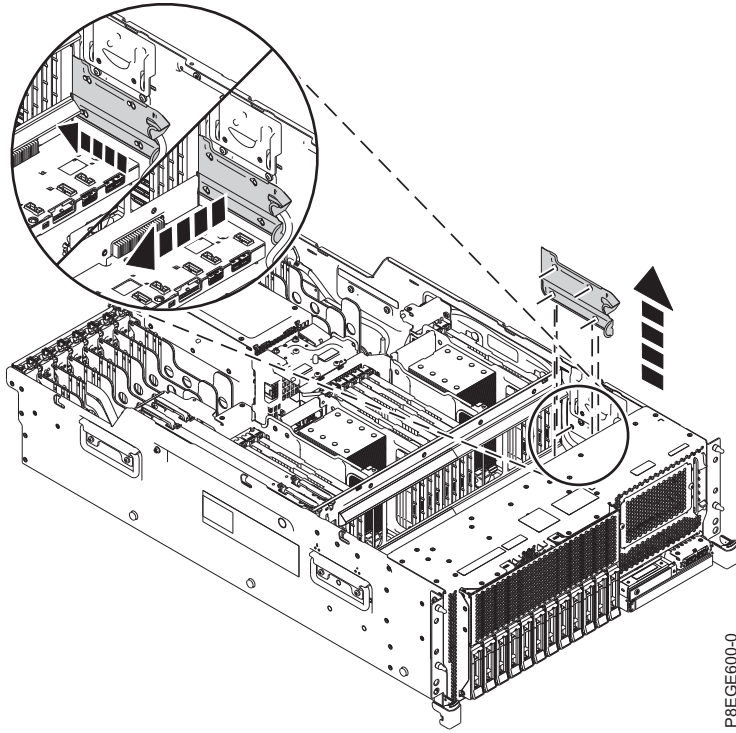

Figure 63. Removing the USB cable cover
14. Remove the USB cable cover on the side of the system chassis. Grasp the top handle of the cover and pull out and away from the side of the chassis. Push the cover toward the rear of the system until the slots on the cover clear the pins on the side of the chassis, then remove the cover. See Figure 63 on page 67.